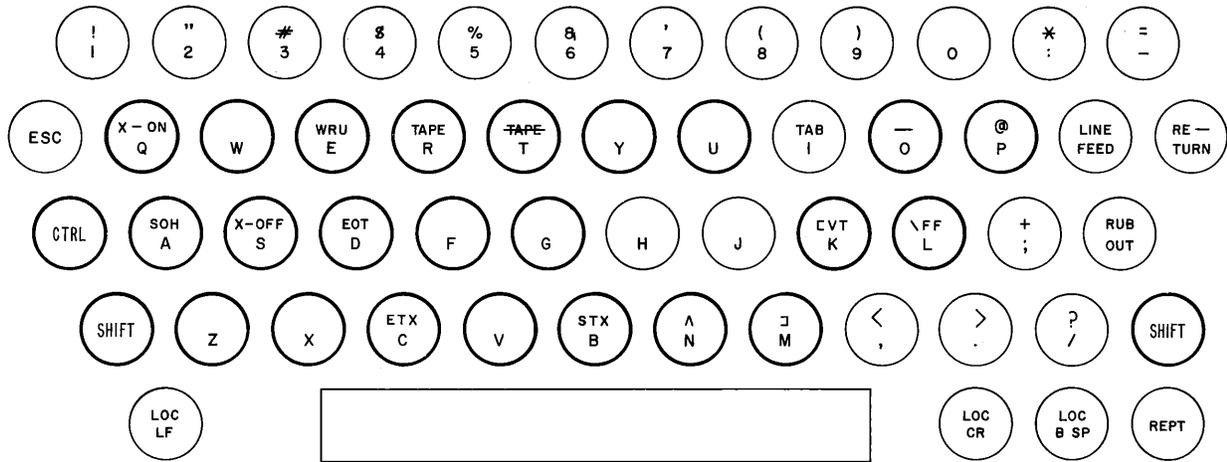

Fig. 4—Keyboard
**3.03 *Keyboard:*** The keyboard provides the operator with a means of entering data. The page printer format logic panel, reperforator or external receivers may be connected to the keyboard as required. The keyboard generates all upper case alphabet, the Arabic numerals, space, 24 punctuation marks, special symbols, and control (nonprinting) characters. An even parity is generated with every character. Refer to Fig. 4 for keytop designations.
**3.16** Table D lists the keys to be operated, ASCII code generated, and logic function for each code. The illustration in Fig. 4 shows the keyboard control keys in heavy outline for CONTROLMATIC operation.